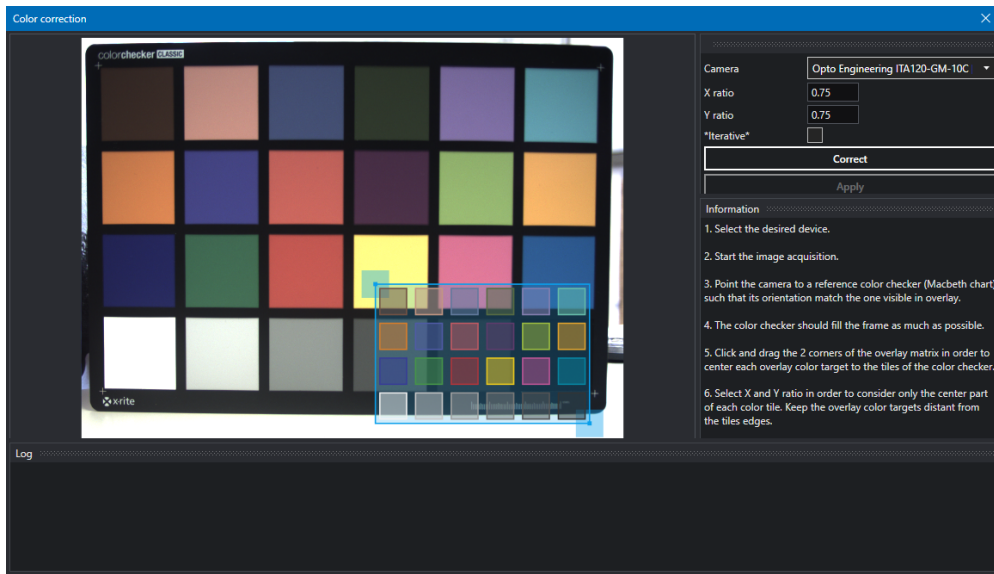

Figure 30: Window of the color correction wizard.
3. Open the Color Correction Wizard (*Wizard > Color correction*) (Fig.30).